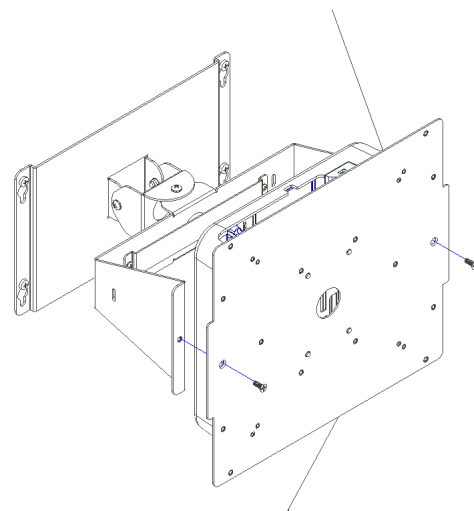

Figure 3
Step 3 – Attach the Antenna Mounting Plate faced out with the two included #8-32 x 7/16" flat head screws (Figure 3).